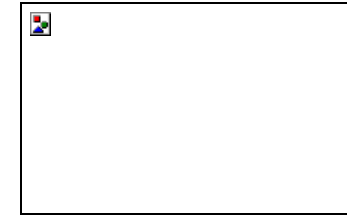

Fig. 42 Disconnecting patient cable and sensor
1. Place thumb and index finger on grey buttons on either side of the patient cable (Fig. 42).